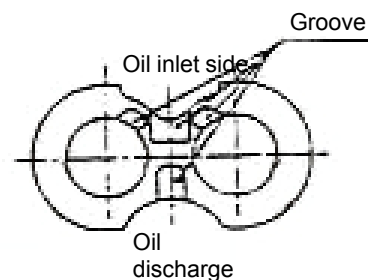

Figure 2-65
- (3) Assembly
- (e) Mount a new seal ring and a new retainer ring on the groove at the rear-end cover. See Figure 2-65